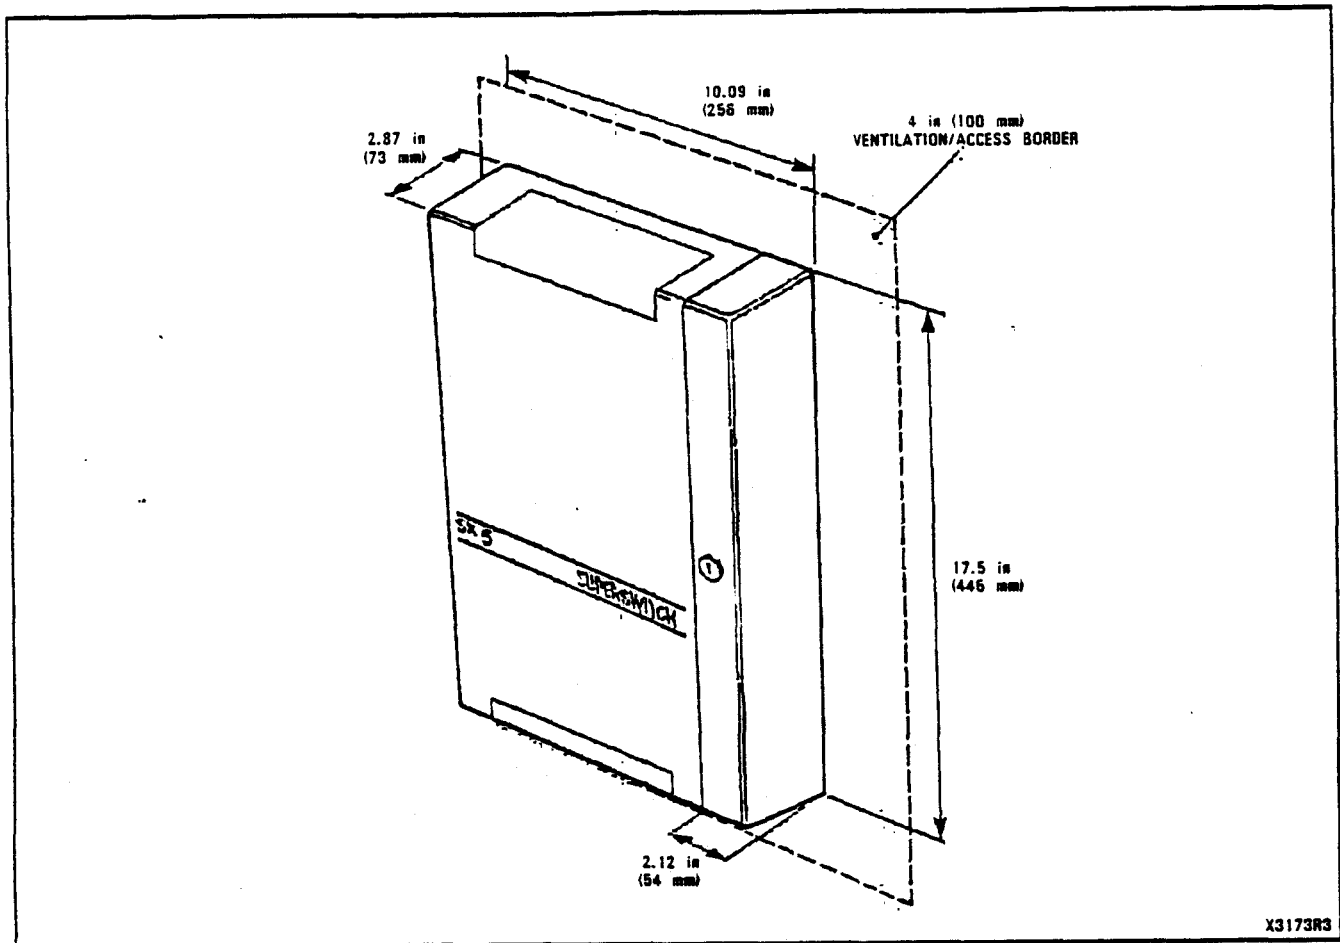

Fig. 4-1 SX-5 Dimensions
4.02 The minimum space required for installation of the SX-5 is shown in Fig. 4-1.